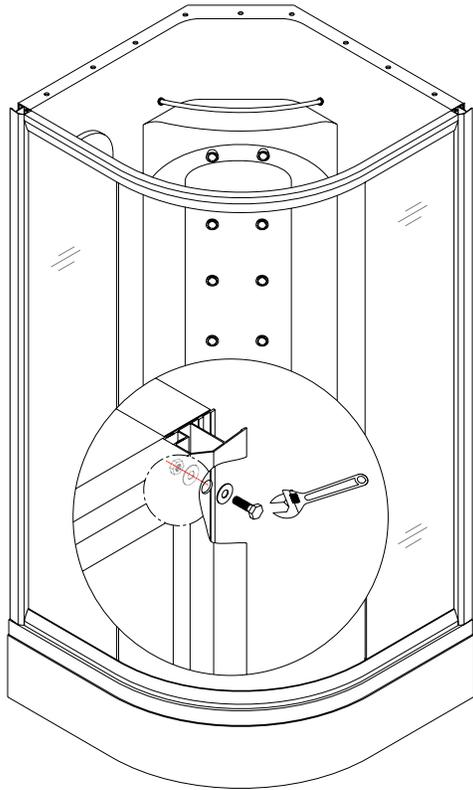

Fig 9
9. Clean the front threshold of the tray and apply a layer of silicone. Put the glass enclosure assembly onto the tray and adjust the position. Use M6×16 bolt sets to connect the vertical profiles and back panel; (fig 9)